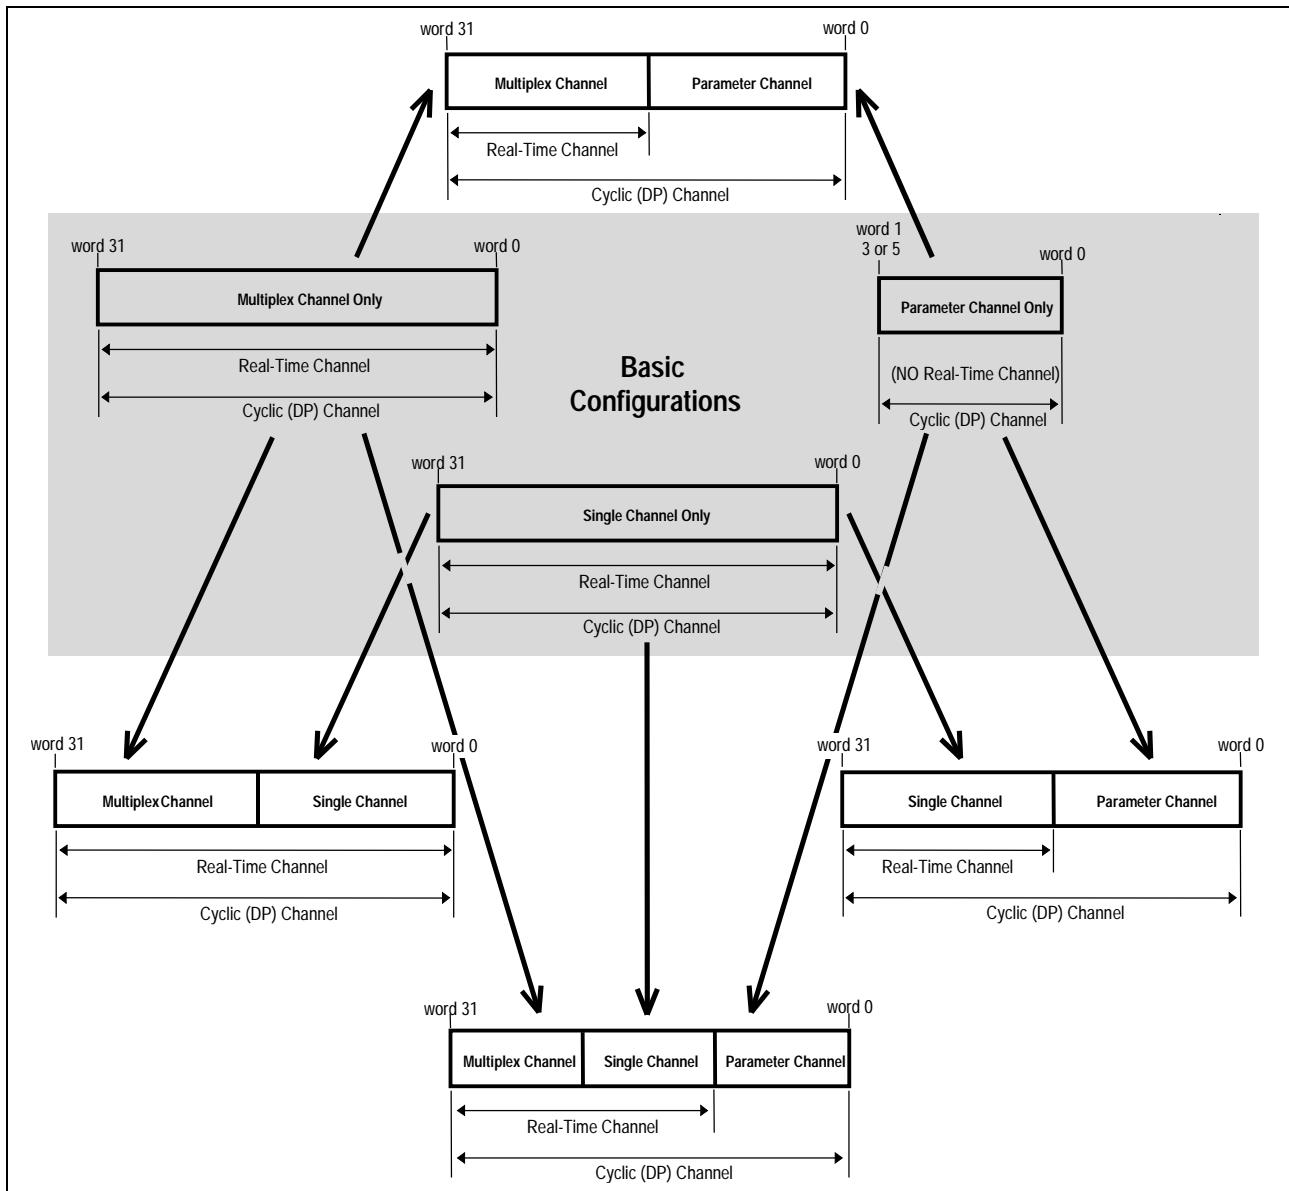

Fig. 6-2: Configuration Options for the Cyclic Data Channel
Note: The Parameter Channel is always allocated as the first 3, 4 or 6 words of the Profibus cyclic (DP) channel. The length of the Parameter Channel plus the length of the Real-time Channel used to exchange cyclic data represents the entire length of the DP channel (maximum total length: 16 words). Refer to *Fig. 6-2* for DP channel configuration options.